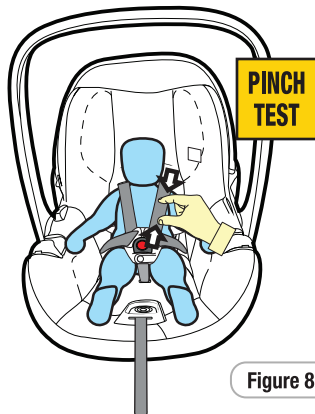

Figure 8
Step 10: Check the harness tightness by the **PINCH TEST**, this is achieved by pinching the harness webbing at the shoulders (refer Figure 8)